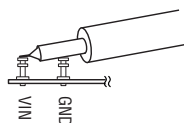

Figure 2. Measuring Input or Output Ripple
**NOTE.** When measuring the input or output voltage ripple, care must be taken to avoid a long ground lead on the oscilloscope probe. Measure the input or output voltage ripple by touching the probe tip directly across the  $V_{IN}$  or  $V_{OUT}$  and GND terminals. See Figure 2 for proper scope probe technique.